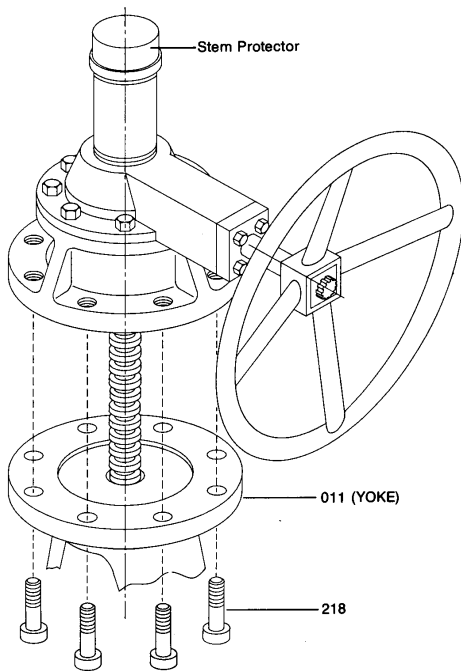

Figure 11
Gear actuators (Fig. 11.) are supplied as self-contained units that can be separated from the yoke by removing the actuator capscrews (218). If a stem protector is provided it should be removed. With the actuator properly supported, it may be raised off the yoke either by turning the handwheel or rotating the entire unit.